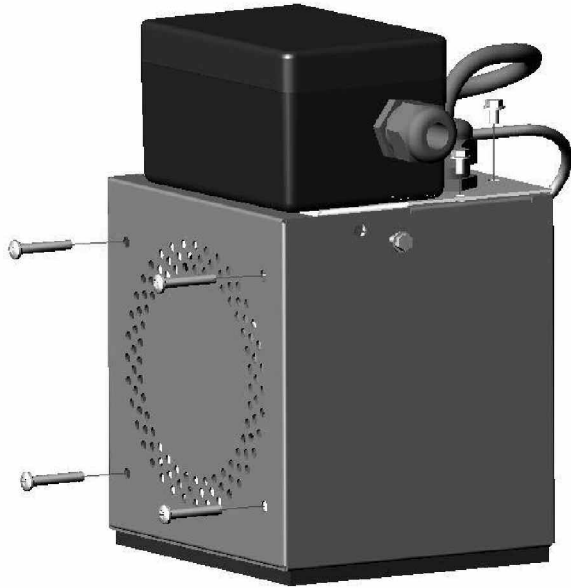

Figure 11 - Blower Enclosure, Right Side
1. Remove the 6 Hex Slotted Head Screws and the 4 Phillips Pan Head Screws as shown in figure 11 and 12.